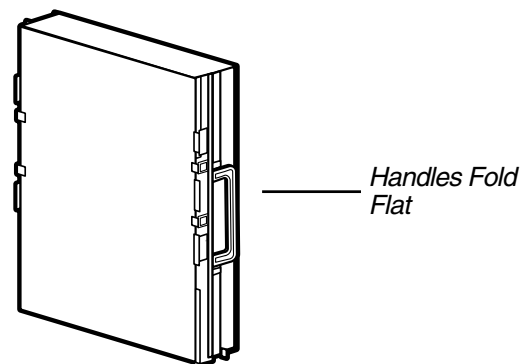

Figure 41 Collection Cell, Handle Folded
4. When there are no visible water droplets left in the COLLECTION CELLS, reinstall them into the air cleaner cabinet. Be sure to fold the COLLECTION CELL handles flat as shown in Figure 41.